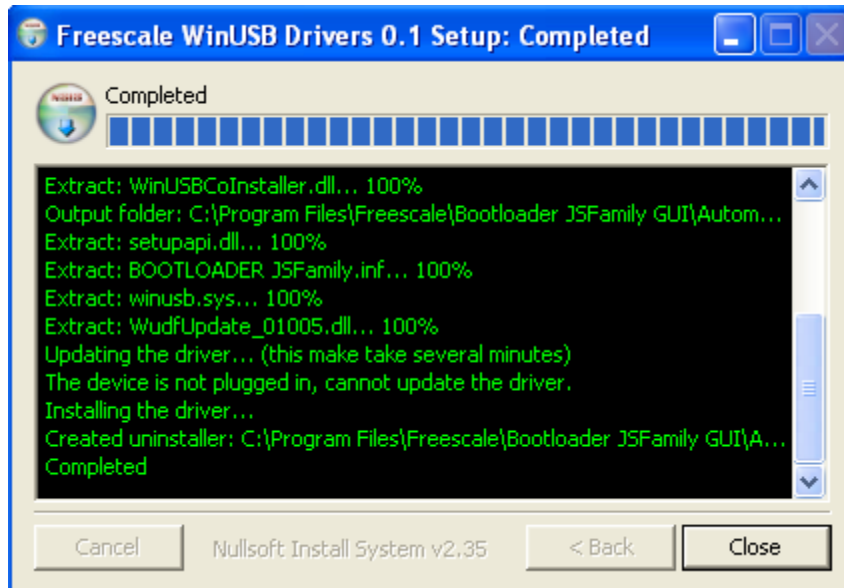
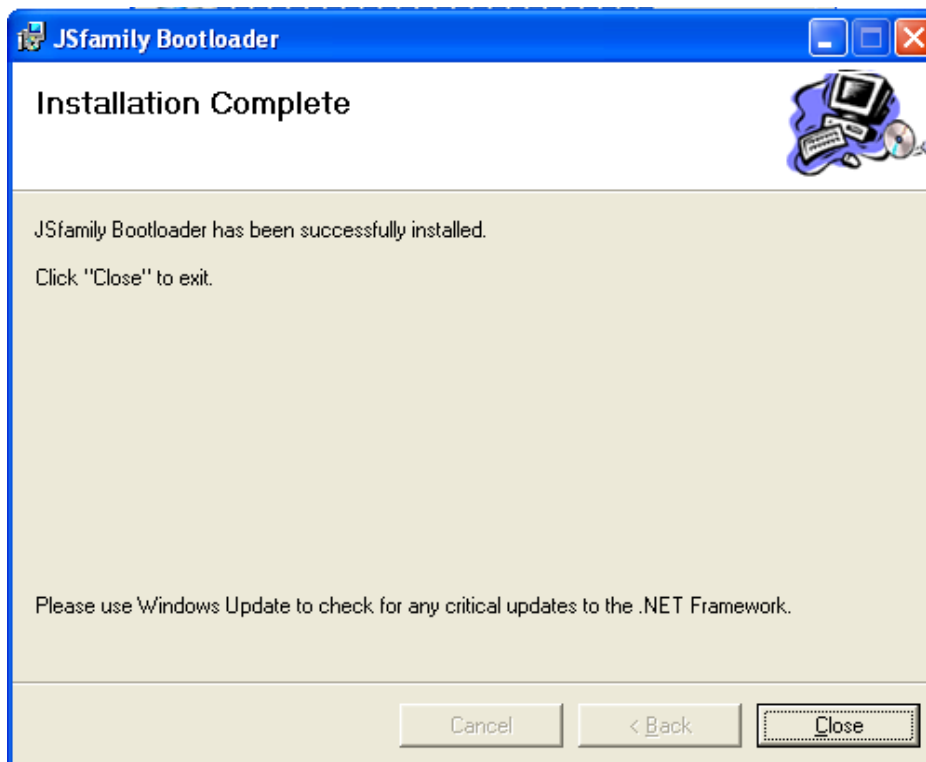

Figure 9. USB Driver Installation Completed
Figure 10. All Installations Completed
7. After the USB driver files are all copied to the destination folder a dialog is displayed as in Figure 9. To close the USB driver installation click the Close button and a dialog is then displayed see Figure 10. This indicates that the installation process has been completed.